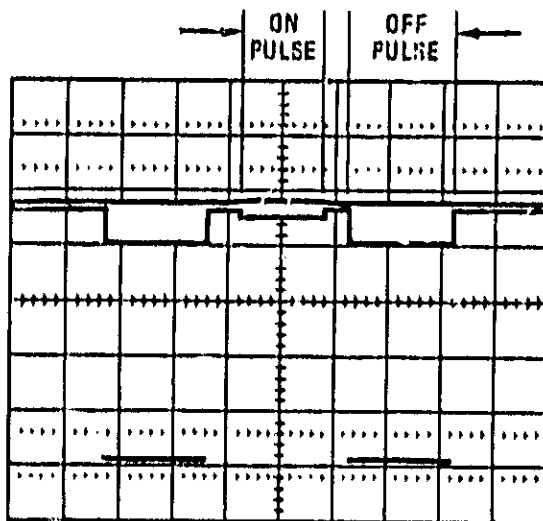

Figure 5-37. On/Off Pulse of Correctly Adjusted Circuit
7. Press INTENS MKR. Connect the oscilloscope probe to A7TP2. First, ensure that marker OFF pulses exist on both sides of the marker ON pulse. (Decreasing the oscilloscope BEAM INTENSITY will expose the marker ON pulses.) (See Figure 5-37.) While the crystal markers may function properly without them, the marker-off pulses provide a safeguard against false markers appearing on the display.